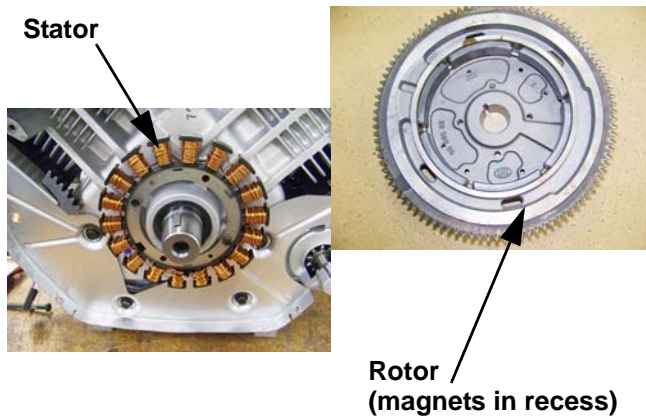

Figure 7.24
1. When the engine is running, magnets attached to the underside of the flywheel induce A.C. (Alternating Current) in the stator that is mounted beneath the flywheel. See Figure 7.24.